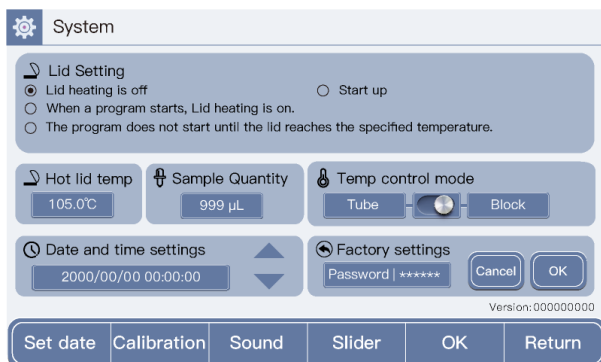

Fig 11. System Settings Screen
1. Click <System> on the Main screen to enter the System screen (Figure 11).